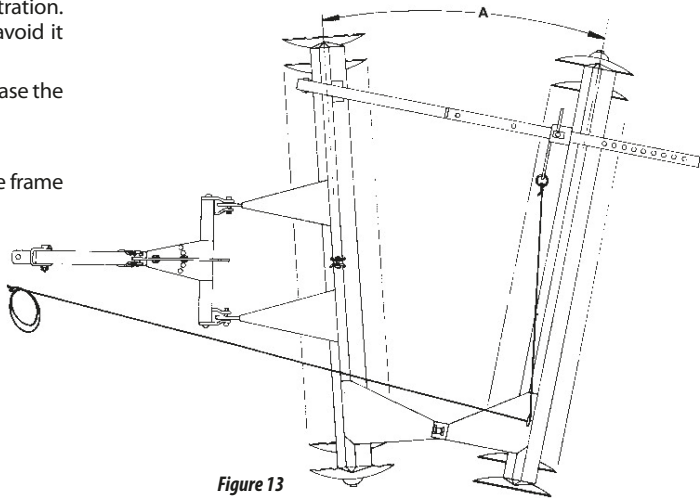

Figure 13
- For hard ground conditions, or when more penetration is desired increase the angling of the discs as illustrated on the figure 13.